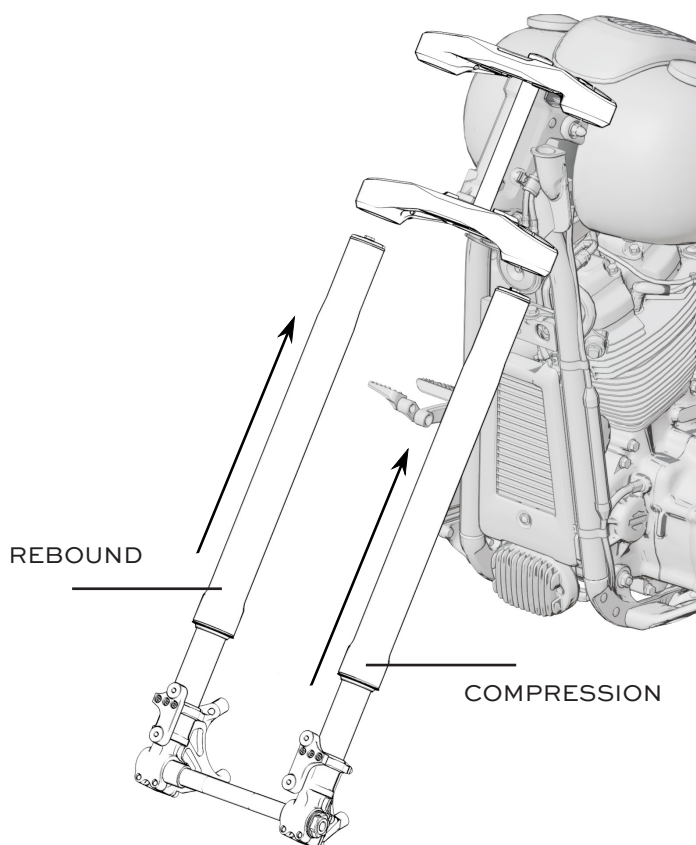

Fig. 9
2. Install each fork leg into trees. **(See Fig. 9)** Ensure pinch bolts are loose. Starting with one side of the triple tree using small flat blade screwdrivers or shims, expand both top and bottom fork clamp pinch bolts slightly. This makes sliding the fork into the triple trees easier, while avoiding damaging the fork legs. Repeat process with opposite side.